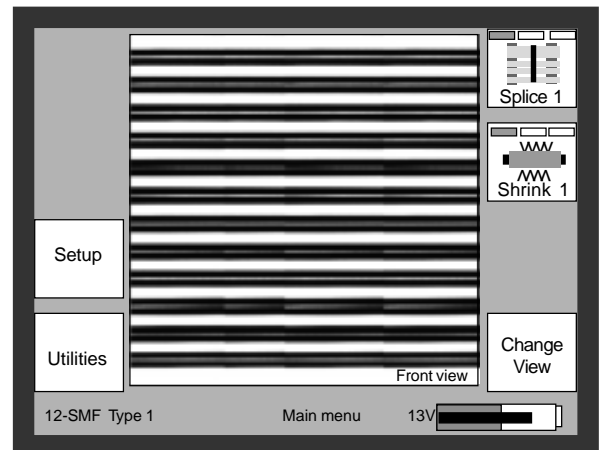

Fig. 62 - Stripped and cleaned fibres in the splicer
2. Place stripped and thoroughly clean whole fibres in the splicer (fig. 62).